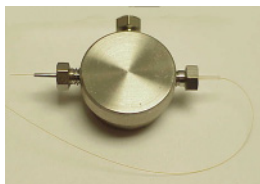

Figure 8-14 Tee Piece
- f. Thread the 20- $\mu\text{m}$  i.d. fused silica through the tee piece and the nebulizing capillary. Tighten the tee nut holding the silica sleeve so that it is finger tight and make sure that the fused silica is free to move through the tee (Figure 8-14).